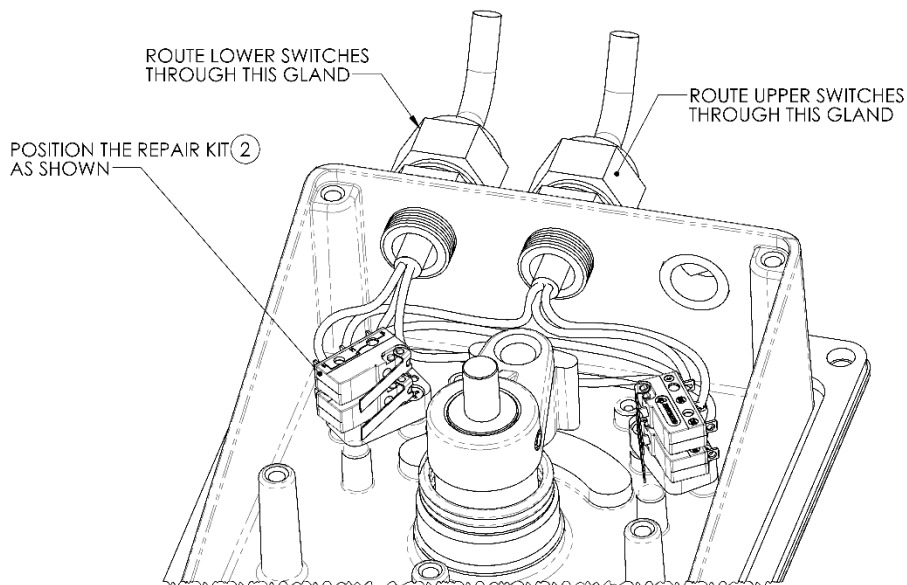

Figure 14: Routing the cables for 7171-RF-02 / 7171-RK-02
12. [4 Microswitch models] Position the microswitch repair kit ② as shown in Figure 14:
- Route the cables for the top/bottom switches through the glands as noted in step 5. The default factory routing is given in Figure 14.